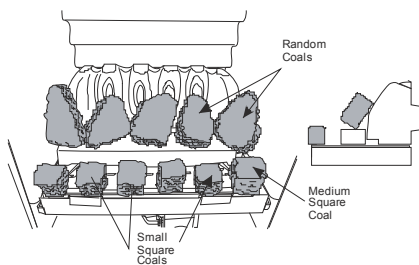

Figure 24
4. Unpack the square coals and insert them centrally into the spikes as shown in **Figure 24**. Then place Large Random coals on the middle matrix such that they are bridging across to the rear matrix.